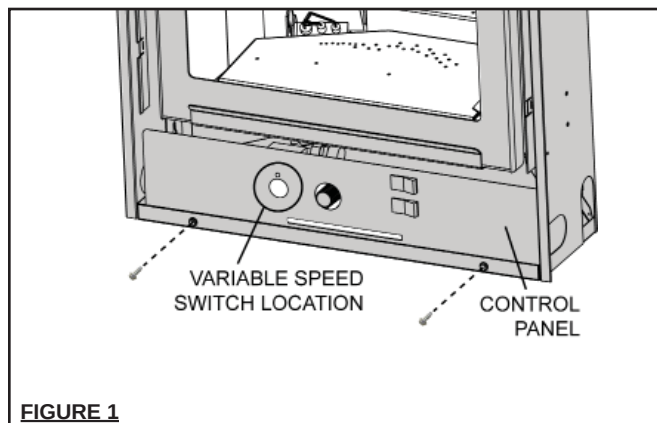

FIGURE 1
1. Remove the two screws that secure the control panel to the front of the unit. (FIGURE 1)
7. Place the variable speed switch into position and secure with the pal nut supplied. (FIGURE 1) Reinstall the control panel and install the variable speed switch knob.